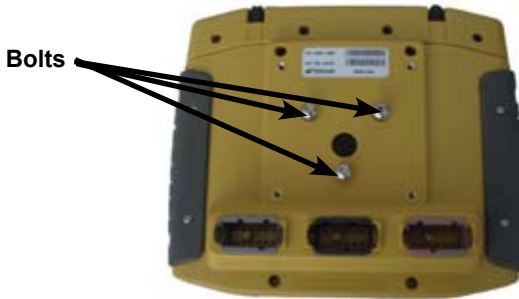

Figure 6-2. PCS100 Rear View
4. Line up the 3 holes on the Ball Mount with the 3 bolts behind the PCS100 (Figure 6-2)